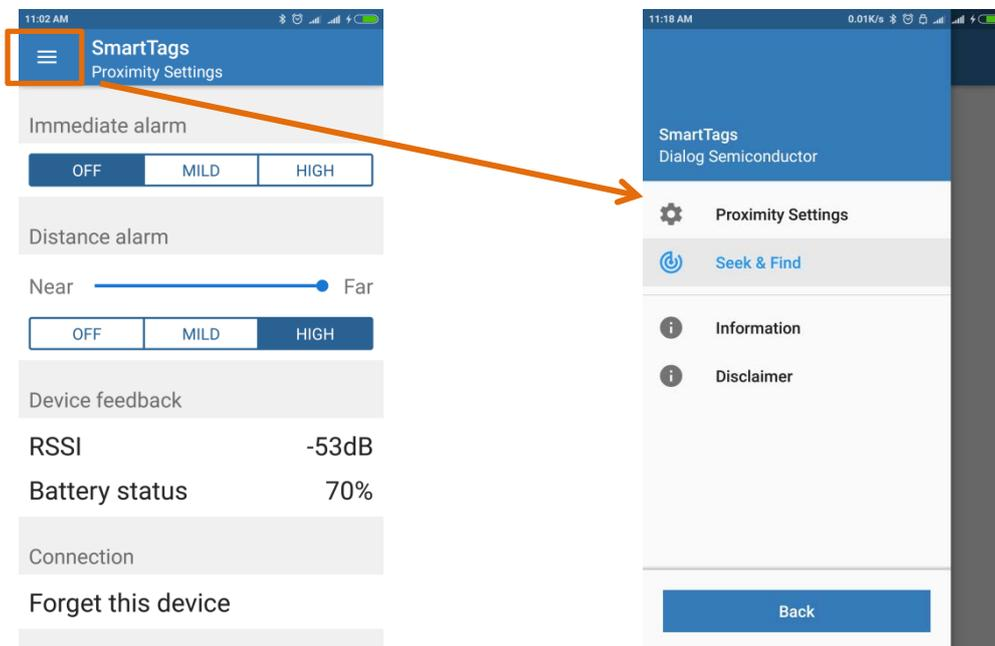

Figure 36: How to Access the Side Menu
- The side menu appear when the top left menu icon is clicked ( Figure 36). From the side menu users have access to the Seek & Find game, the information of the device ( Figure 37), and the disclaimer statement ( Figure 38).
- Figure 36), the Dialog SmartTags app will start a Warmer/Colder game with the selected device.